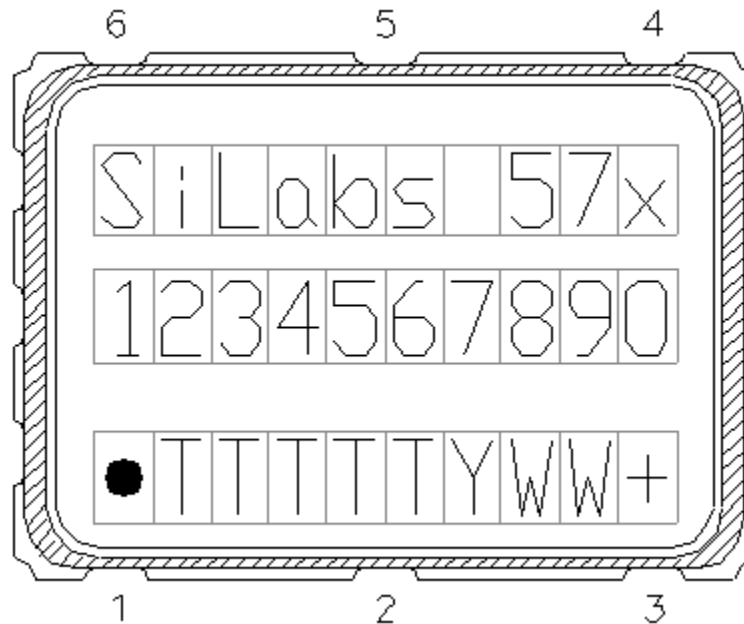

Figure 7. Mark Specification
Figure 7 illustrates the mark specification for the Si57x. Table 15 lists the line information.
- Updated Figure 7 and Table 15 on page 28 to reflect specific marking information. Previously, Figure 7 was generic.